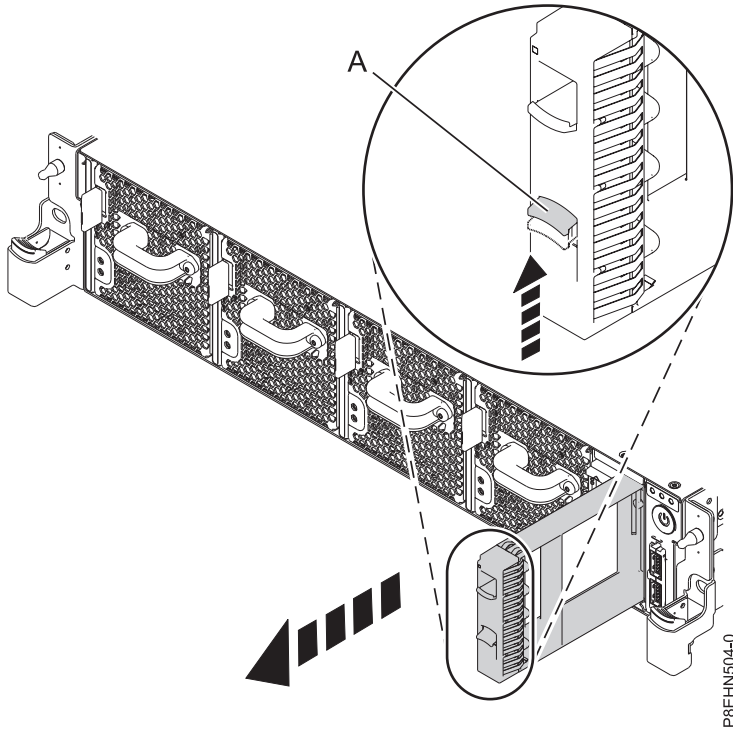

Figure 23. Removing a disk drive filler from a system.
- a. Push the lock (A) on the handle of the filler. See Figure 23 on page 18.